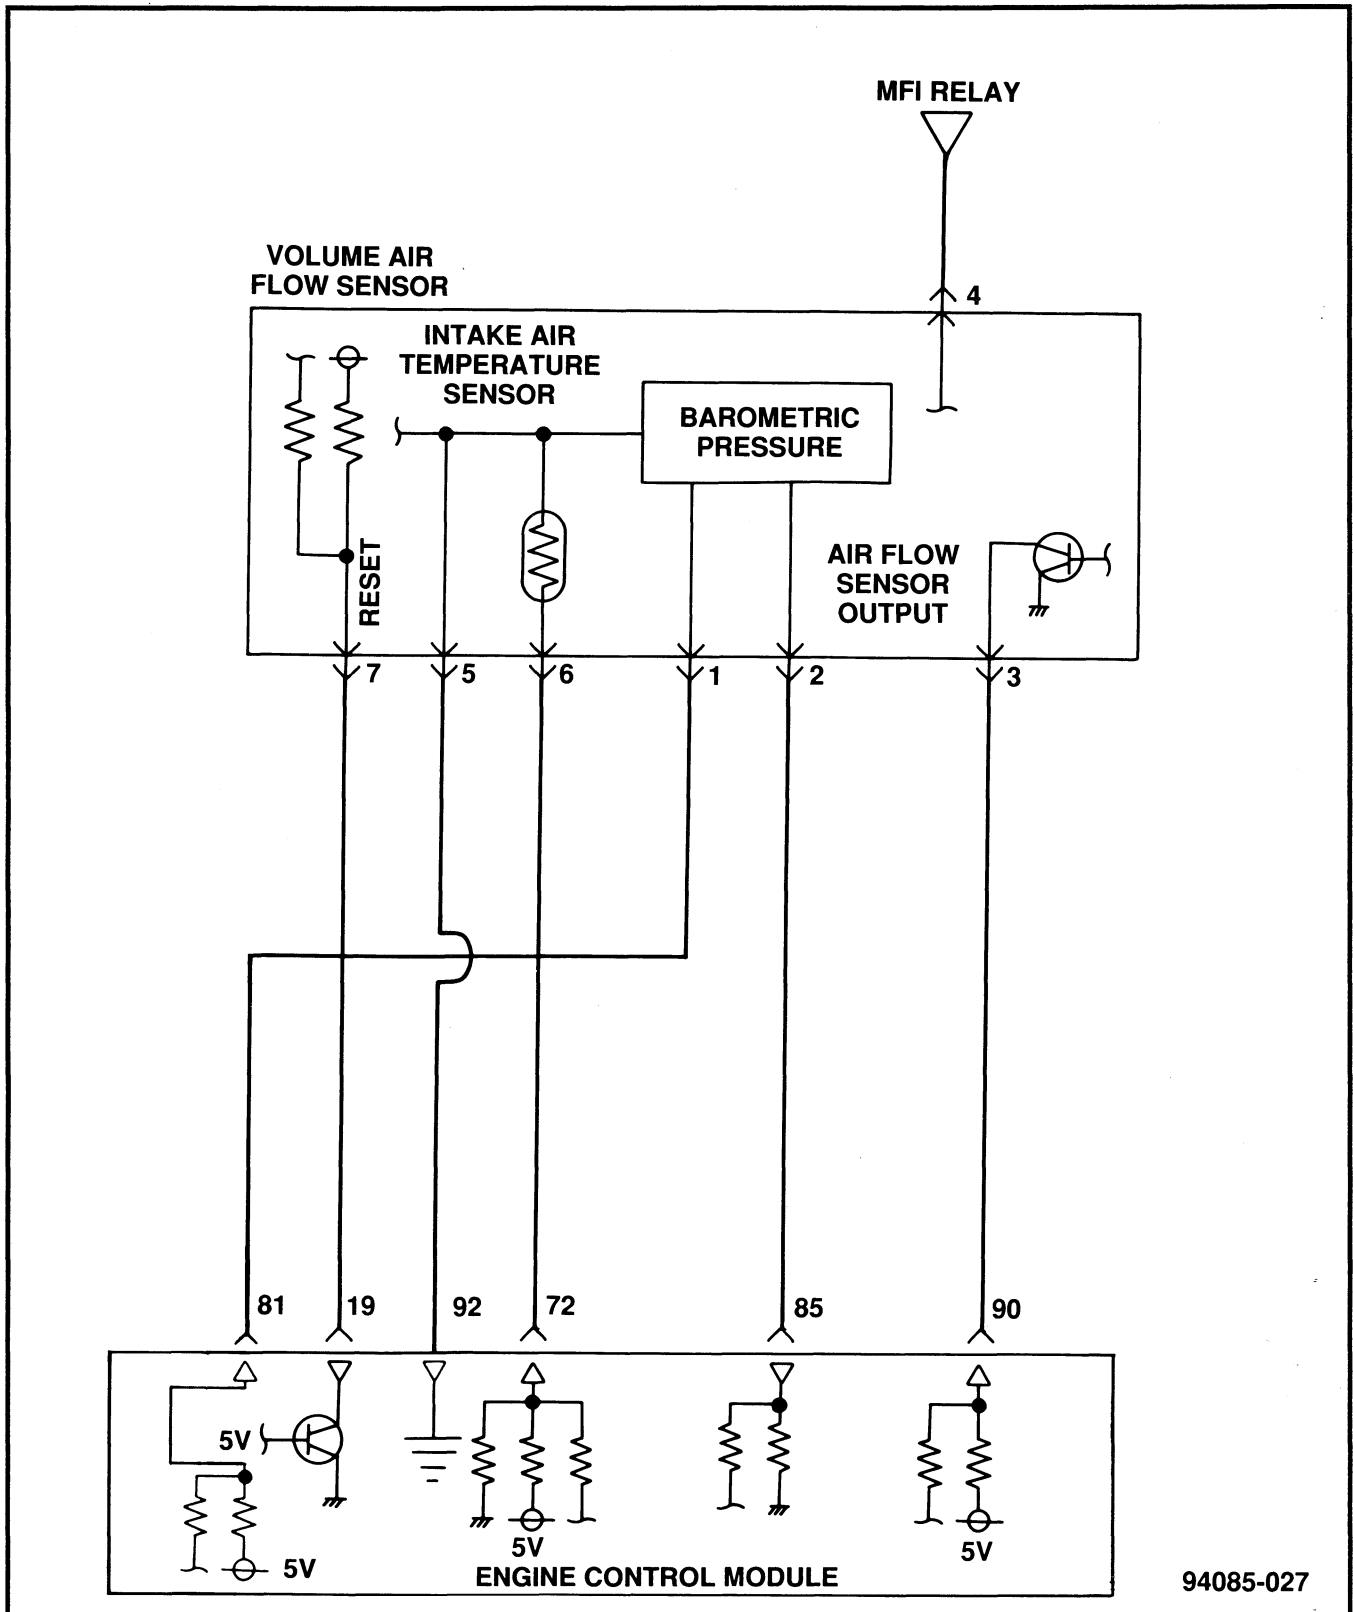

Figure 27 Volume Air Flow Sensor Circuit
The VAF sensor uses an 8-way connector, and is fed 12 volts on pin 4 (RD) from the MFI relay to power-up the sensor. The 5-volt signal is fed from the ECM (pin 90) to pin 3 (BL/YL), and ground is supplied through pin 5 (BK). Pin 7 (RD/WT) is the air flow reset signal (fig. 27).
The BARO sensor uses a strain gauge that changes its resistance in proportion to atmospheric pressure. Pin 1 (DG/YL) of the VAF sensor is a 5-volt feed from the ECM (pin 81) (fig. 27). Pin 2 is the signal-out (barometric pressure), and Pin 5 (BK) is the ground. The voltage at Pin 2 of the VAF sensor (Pin 85 of the ECM) is an analog input that varies from 0 to 5 volts, based upon altitude (Table 1).
The IAT sensor is fed 5 volts through a 2,200 ohm resistor from the ECM on pin 6 of the VAF sensor (pin 72 of the ECM, RD/BL), and uses pin 5 of the VAF sensor for ground (fig. 27). There is also a 33,000 ohm resistor (inside the ECM) tied into pin 72 of the ECM ground, making the IAT sensor reading more linear (Table 2).